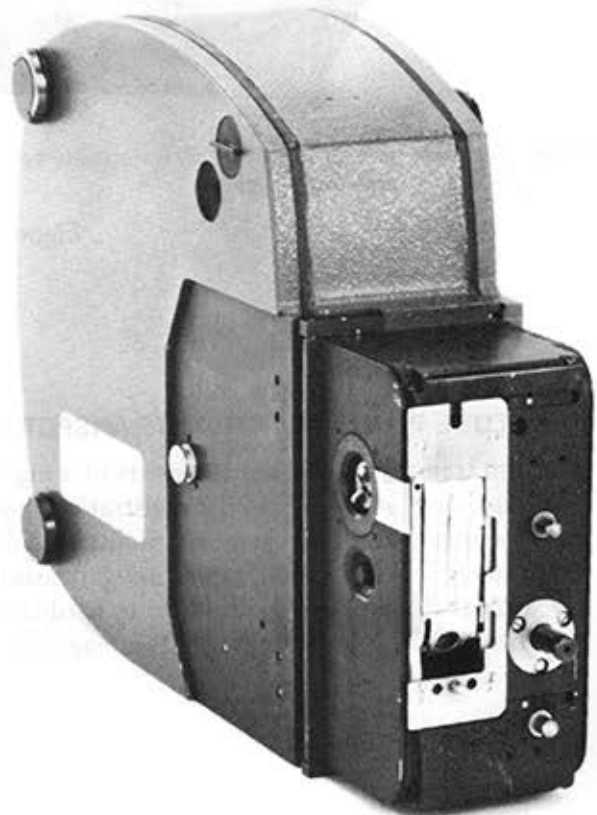

Figure 1-12. 400-Foot Magazine
Two sizes of magazines are available from Cinema Products for GSMO cameras: the 400 ft (120m) (figure 1-12) and 100 ft (30m). These quick-change, cassette-type coaxial magazines, intended for rugged use, incorporate loop-forming devices for quick and easy loading. Preloaded magazines can be changed instantly. The interchangeable film gate assembly, installed in the magazine, has a removable pressure plate for easy cleaning. The 120m (400 ft) magazine also features a film-remaining manual indicator which reads: "E- $\frac{1}{4}$ - $\frac{1}{2}$ - $\frac{3}{4}$ -F." Magazine door locks (1) are used when loading or unloading magazine.